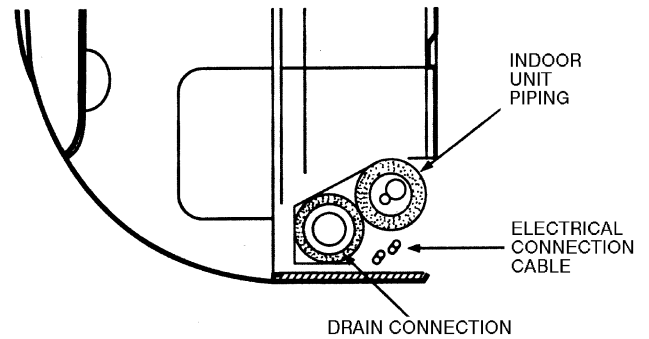

Fig. 11 — Drain Connection (Right Side Shown When Facing Fan Coil Unit)
1. Connect drain line by inserting a 5/8-in. rigid PVC pipe over the drain connection. Refer to Fig. 11.